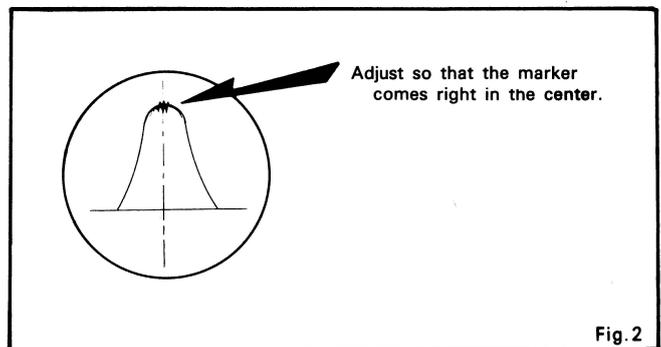

Fig. 2
2. After a proper waveform is obtained, superimpose 262.5KHz (IF) marker on it and adjust primary and secondary cores of IFT1 (005-0660-00) and IFT2 (005-0560-01) in order to obtain a waveform like the one shown in Fig. 2. Preferably use a nonmetallic screw driver for the adjustment.